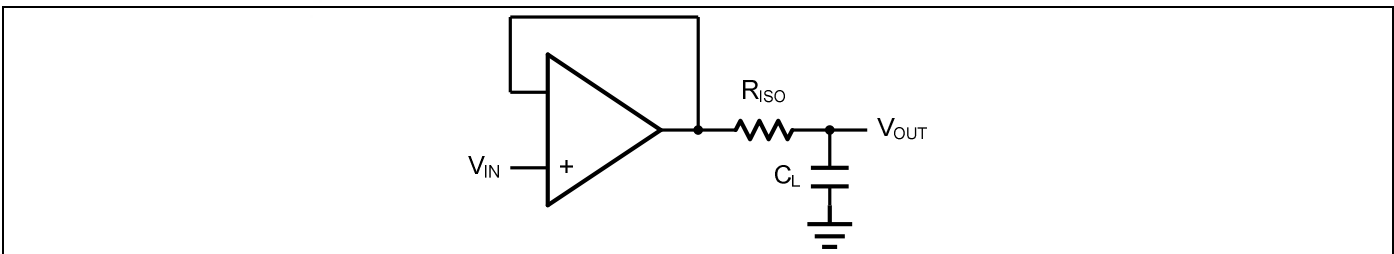
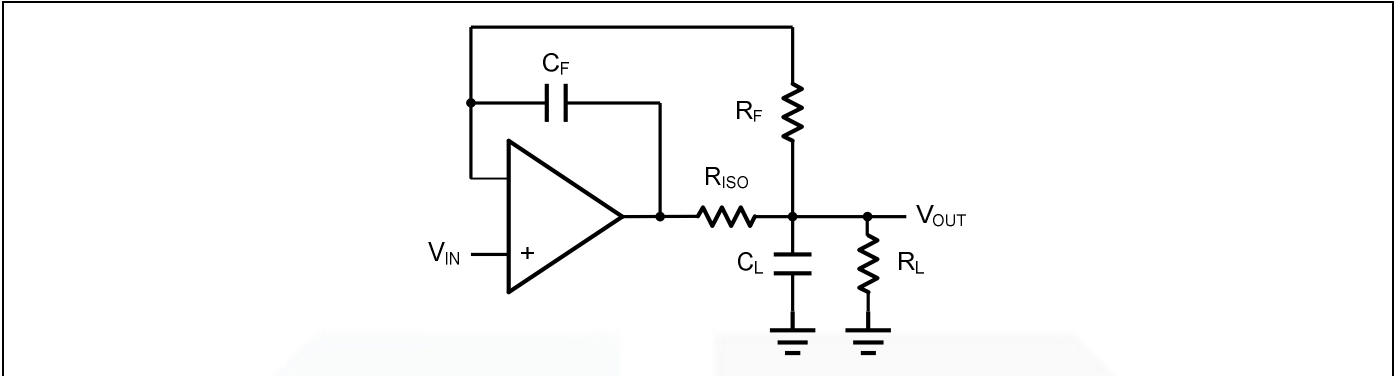

Figure 2. Indirectly Driving a Capacitive Load Using Isolation Resistor
Figure 3. Indirectly Driving a Capacitive Load with DC Accuracy
The GS8541 family is optimized for bandwidth and speed, not for driving capacitive loads. Output capacitance will create a pole in the amplifier's feedback path, leading to excessive peaking and potential oscillation. If dealing with load capacitance is a requirement of the application, the two strategies to consider are (1) using a small resistor in series with the amplifier's output and the load capacitance and (2) reducing the bandwidth of the amplifier's feedback loop by increasing the overall noise gain. Figure 2. shows a unity gain follower using the series resistor strategy. The resistor isolates the output from the capacitance and, more importantly, creates a zero in the feedback path that compensates for the pole created by the output capacitance.
The circuit in Figure 3 is an improvement to the one in Figure 2. R_F provides the DC accuracy by feed-forward the V_{IN} to R_L . C_F